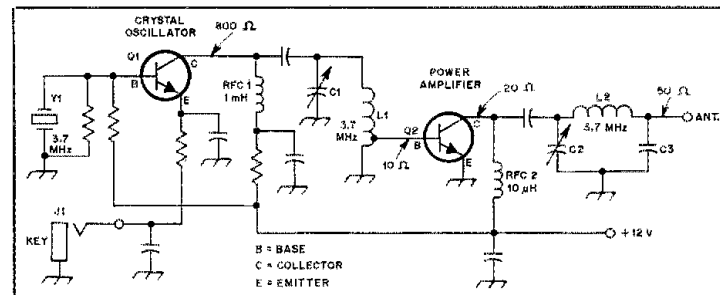

Fig. 4 — Circuit example of a transmitter that uses four styles of coil. See text for details.
Thus far we've talked a lot about coils, but haven't shown examples of their use. Let's contrive an imaginary circuit for the purpose of illustration. Fig. 4 shows a suitable example in schematic form. Here we have a two-stage transistorized code transmitter. Q1 is the oscillator, and it creates our signal when the telegraph key is closed at J1. Y1 is the quartz crystal that
determines our transmitter frequency. In the collector circuit of Q1, we find an RF choke (a coil) labeled RFC1. All coils are for use in alternating-current (ac) circuits: Remember that radio-frequency (RF) energy is also a form of ac. There is no such thing as a direct-current (dc) transformer. So, RFC1 is used in Fig. 4 to permit the flow of dc to the collector of Q1 while preventing, or choking, the flow of RF energy back into the +12-V voltage line. The RF choke has a value of 1 mH.
If we look to the right in Fig. 4, we will note another coil, L1. It is used to tune the output of the crystal-oscillator stage to the frequency of the crystal — 3.7 MHz. C1 is used with L1 to achieve this requirement. When the combination of C1 and L1 is tuned to 3.7 MHz, we have what is known as a *resonant* circuit, or we might say the circuit is tuned to *resonance*. We can see
At the far right in Fig. 4 we have L2. It is a coil also, but in this application it serves two purposes: It is tuned to resonance by means of C2 while acting as an impedance-matching network. Our circuit example shows that the collector of Q2 looks like 20 ohms to the circuit that follows it. But, the antenna presents a 50-ohm impedance. If we are to have maximum power transfer from Q2 to the antenna, we must match the impedances of the two devices. By selecting the proper values for C2, C3 and L2 we can reach this goal.
So, we have seen three important uses for coils in Fig. 4. I should mention also that the tap on L1 (near ground) is selected to provide another impedance match. This time, we are matching the 800-ohm collector of Q1 to the 10-ohm base of Q2. The coil, L1, actually functions as a transformer under such a condition. The impedances presented by the various elements of a transistor are determined for the most part by the operating voltage and current common to the transistor. The values listed in Fig. 4 are by no means specific.